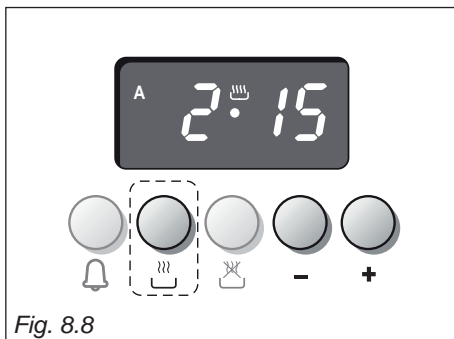

Fig. 8.8
1. Set the cooking time by pressing button  and then  to move forward or  to move back if you have gone beyond the required time (fig. 8.8).